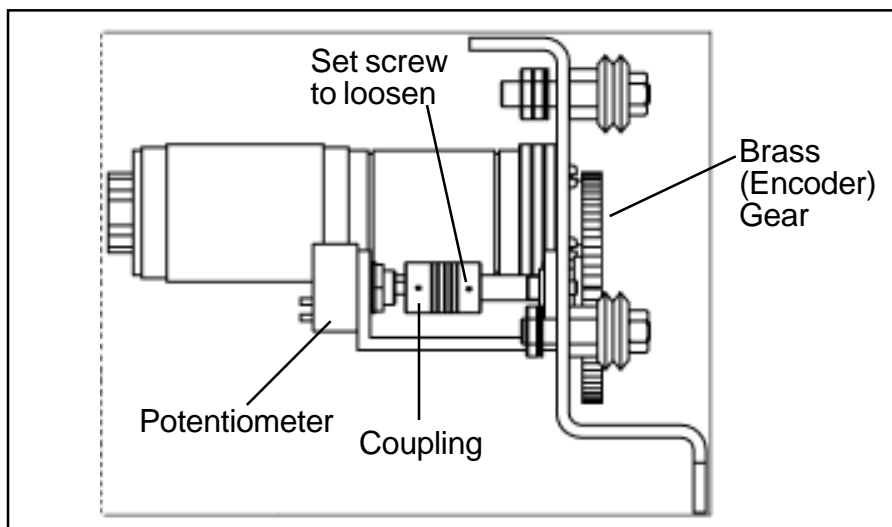

Figure 8: Simplified side view of machine with right cover (BUG-5708) removed.
5. Loosen only the set screw on the gear side of the coupling between the brass encoder gear and the potentiometer. Refer to Figure 8.